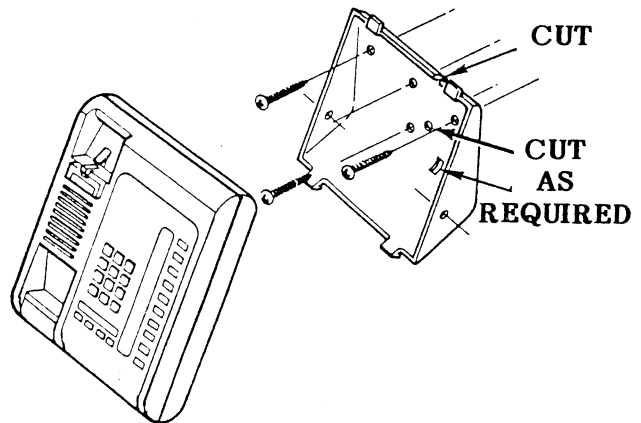

FIGURE 22
08.15 Refer to Figure 22, choose which of the choices are appropriate for the tail cord route, and then cut them.